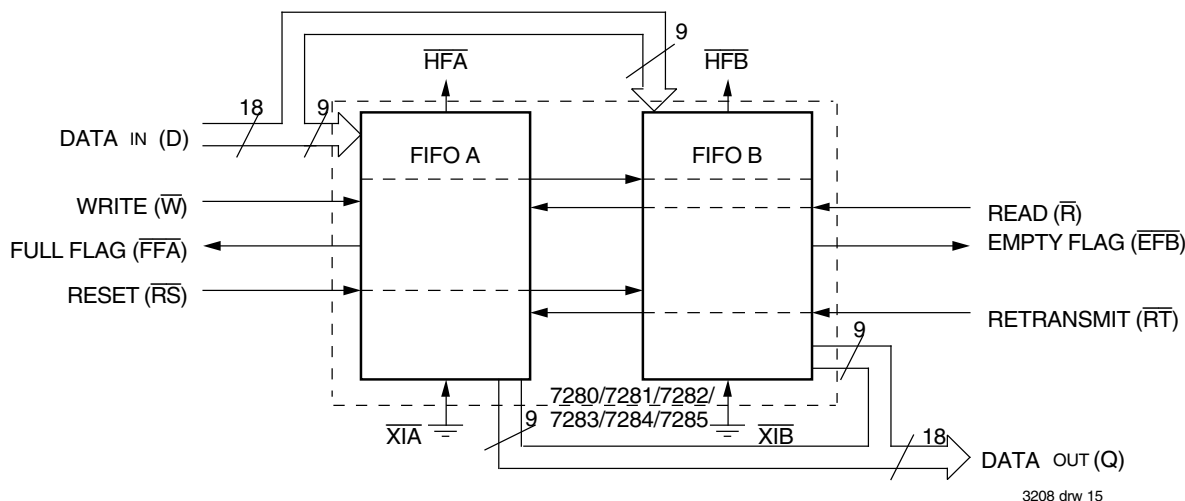

Figure 13. Block Diagram of 256 x 18, 512 x 18, 1,024 x 18, 2,048 x 18, 4,096 x 18, 8,192 x 18 FIFO Memory Used in Width Expansion Mode
Word width may be increased simply by connecting the corresponding input control signals of multiple FIFOs. Status flags (\overline{EF} , \overline{FF} and \overline{HF}) can be detected from any one FIFO. Figure 13 demonstrates an 18-bit word width by using the two FIFOs contained in the IDT7280/7281/7282/7283/7284/7285s. Any word width can be attained by adding FIFOs (Figure 13).
2. For Flag detection see section on Width Expansion and Figure 13.